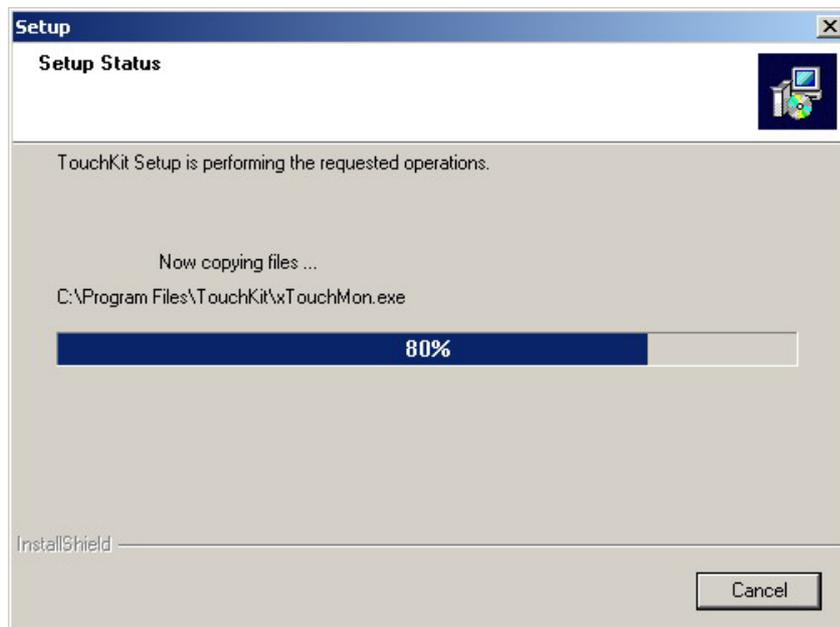

Figure C-9: Installing
Step 14: The program then starts installing (**Figure C-9**).